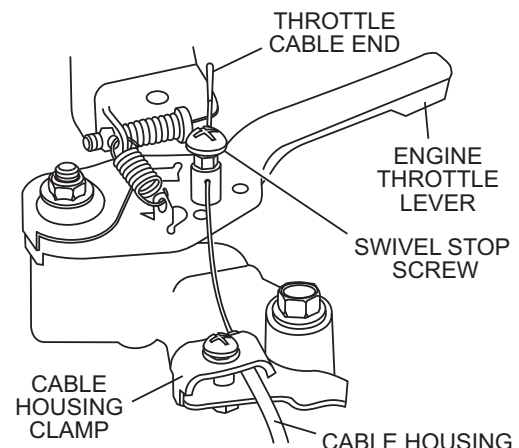
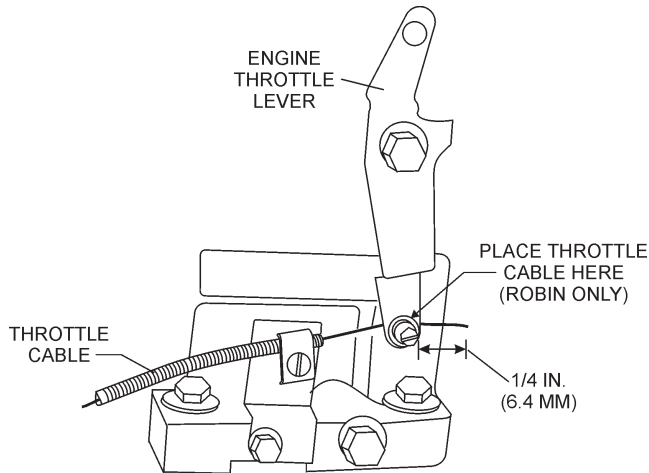

Figure 8. Throttle Cable Connection (HONDA)
Figure 9. Throttle Cable Connection (ROBIN)
3. Connect the throttle cable to the engine. (Figure 8), **Honda** and (Figure 9), **Robin**. There should be a piece of wire installed on the trowel to show where to route the throttle cable. When connecting the cable housing, make sure that no more than **1/4" (6.4mm)** of the cable housing protrudes past the housing clamp on the engine.